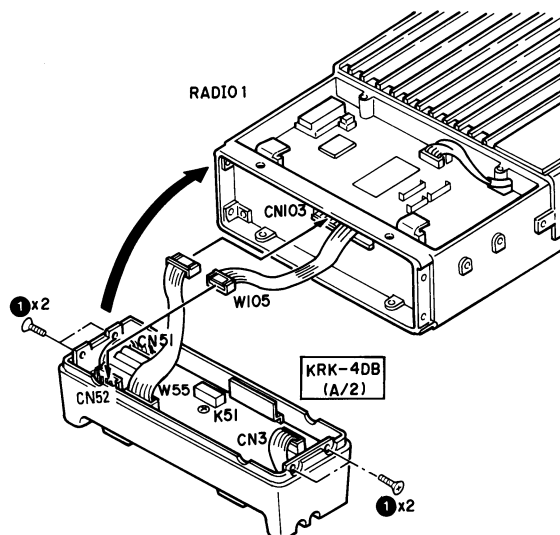

Fig. 1-3
3-1. Connection of radio 1 and KRK-4DB A/2 (unit with a relay) (Fig. 1-3)
4. Install the KRK-4DB B/2 on radio 2 using the four flat-headed screws (N32-3006-46) (1). (Fig. 1-3)